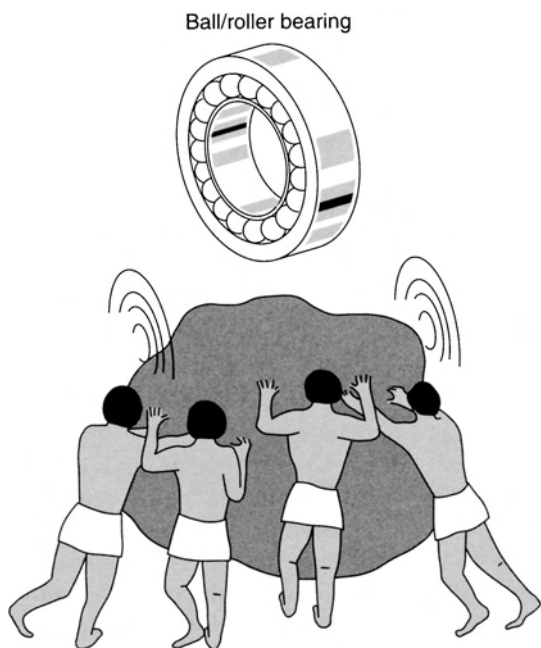
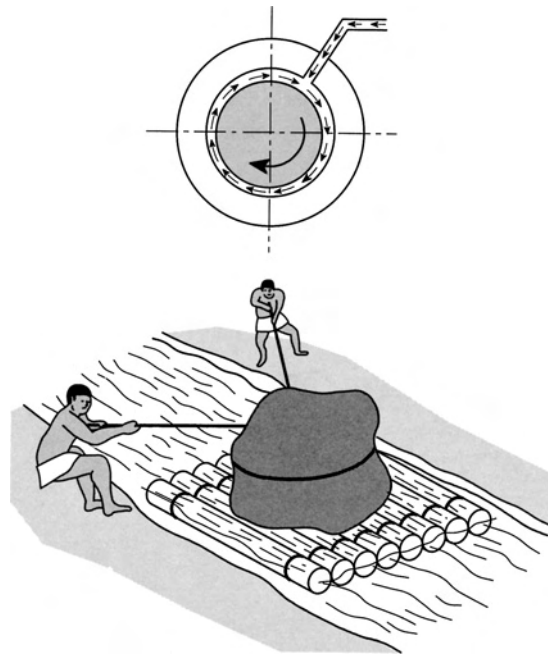
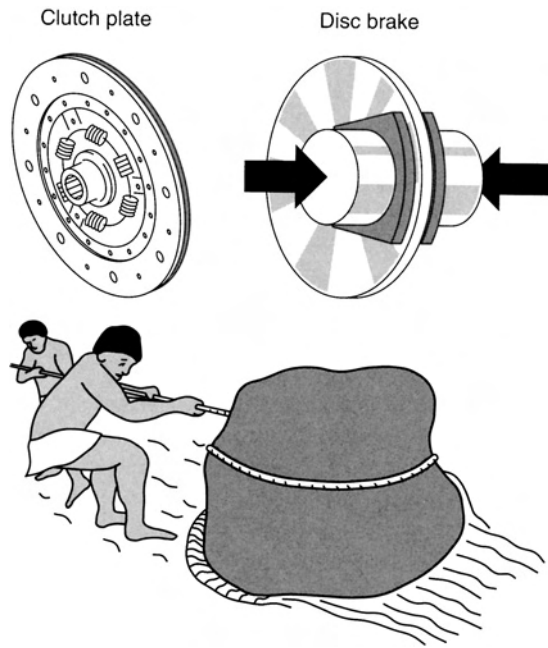

Fig. 1.37 Examples of rolling friction
Fig. 1.38 Examples of fluid friction
Fig. 1.39 Examples of dry sliding friction
Many years ago it was found that considerable effort was required to drag or push a heavy stone along the ground. It was found to be much easier to roll the stone (Fig. 1.37). It was later discovered that when the stone was put onto a raft and floated on water it was easier still to transport the same stone (Fig. 1.38).
friction is used in the brakes and so is useful (Fig. 1.39). When the stone was rolled it was found to be easier to move. **Rolling** friction creates a lot less resistance and therefore far less heat. This type of friction exists in the ball-and-roller-type wheel bearing (Fig. 1.37).
**Note:** The fact that the raft floats on the water is not the most important factor. When the water comes between the raft and the bed of the river the only force resisting the movement of the raft carrying the stone is the resistance caused by one particle of water sliding over another. This resistance is a lot less than the resistance of dry friction when an object is in direct contact with the solid ground (Fig. 1.39).